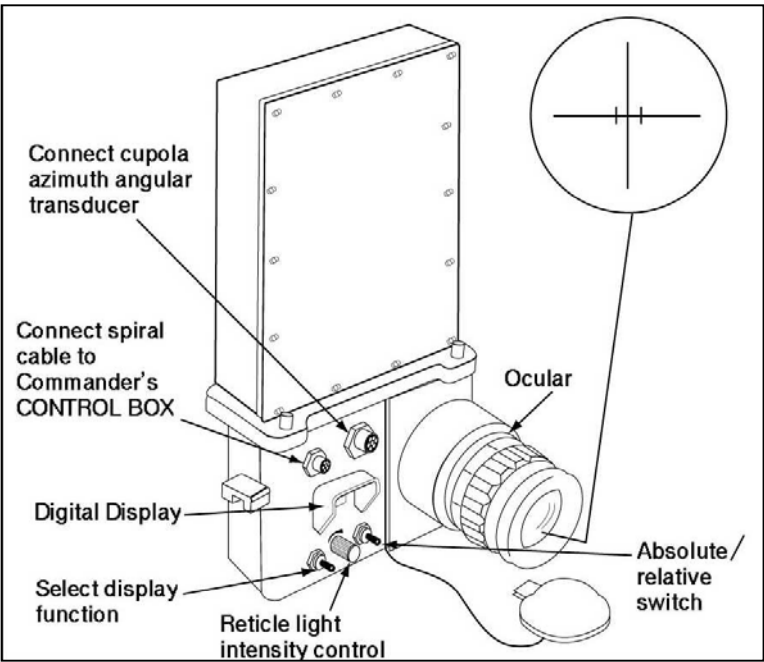

Figure 4-4-3: Crew Commander's Periscope
13. **Crew Commander's Periscope** (Figure 4-4-3). The crew commander's periscope is mounted in the crew commander's cupola. It consists of a 13 power magnification optical sight with stadia reticle lines, a rotating top mirror for setting the elevation of the field of view, an elevation lever and a periscope display panel. The periscope display panel consists of a red LED digital display panel, a position/dimmer switch to the left, an absolute/relative switch to the right and two electrical receptors above the display panel. There are two cupola turret handles mounted to assist in rotation of the cupola.